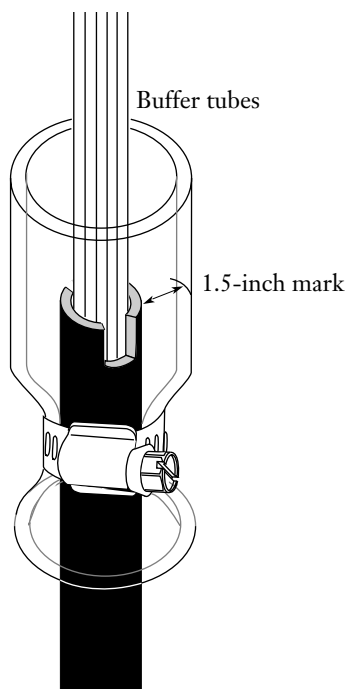

Figure 11
6.3 Position the vinyl tube on the cable. Line up the 1.5 inch mark made on the tube in step 6.2 with the cable sheath end. Tighten the hose clamp to compress the vinyl tube down on the cable sheath (Figure 11).